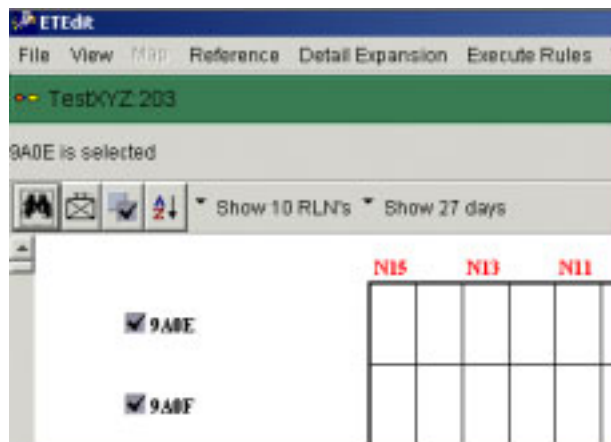

Figure 5.218 ETEdit (Main) Window Check Boxes
3. On the ETEdit (main) window, mark the RLNs to which marry-up assignments are to be made (Figure 5.218). (Note: a marked RLN has a check in the box at the left of the RLN ID.)